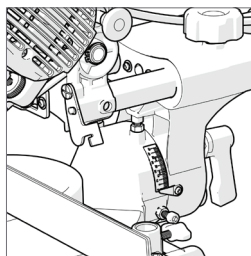

Fig. 12
- Ensure that the Cutting Head is upright, against its stop and the bevel pointer is indicating 0° on the scale. **(Fig. 12)**